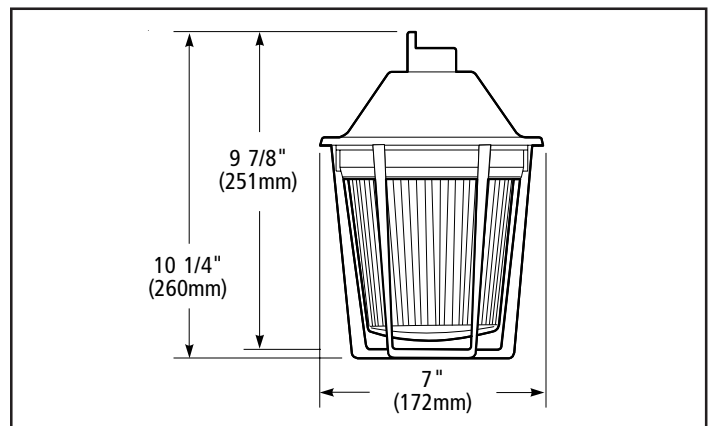

Figure 1. Detail of Pendant Mounting
- Pendant Mount Models** (Figure 1): Install explosion-proof hanger box (not supplied). Pull the unit's wire leads through the 3/4" (19 mm) NPT threaded conduit (not supplied). Secure the 3/4" (19 mm) threaded conduit to the mounting hood.